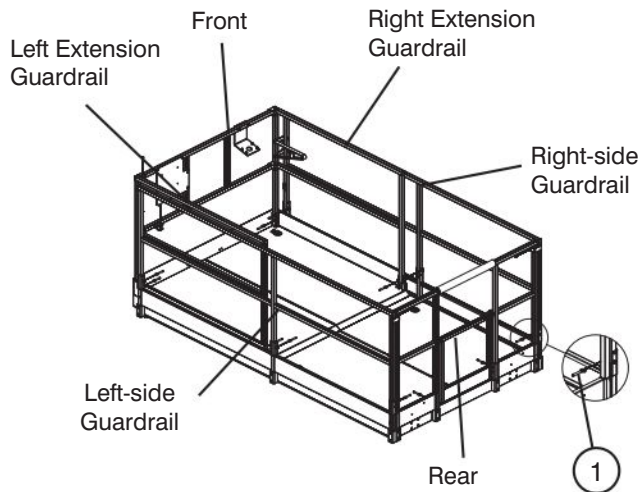

Figure 3-11. Folding Guardrail System
6. Fold guardrails down in the following order: rear, front, left extension, right extension, left-side and right-side (refer to Figure 3-11).